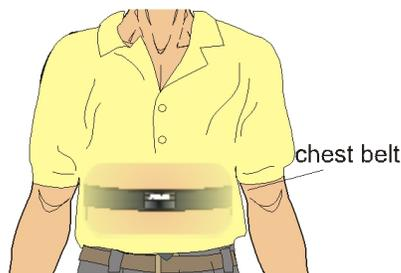

Figure 2
- Secure the Exercise Heart Rate Monitor against the skin directly, around the subject's chest as shown in Figure 2. Verify that the Polar logo is located in the center of the chest in an upright position. Attach the hook to the other end of the strap to secure the sensor and adjust the elastic strap to ensure a tight fit.